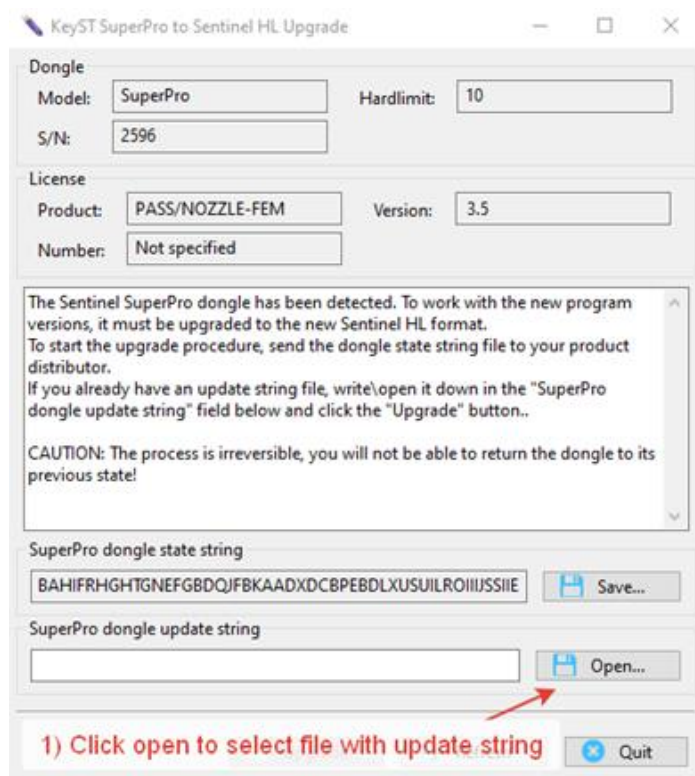

Fig. 2.11. Applying the .upx file
4. In KeySt you need to open the file containing the update string. To do this, press the “Open” button and select the file (**Fig. 2.11**). You can also copy the update string from the clipboard.